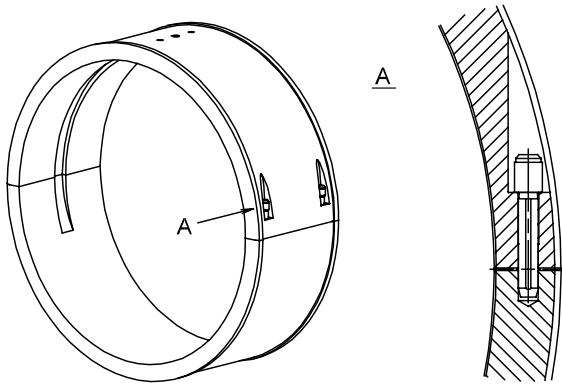

Fig. 2 Vertical guide pin design
1. Introduction of vertical guide pins between upper and lower shells (Fig. 2).